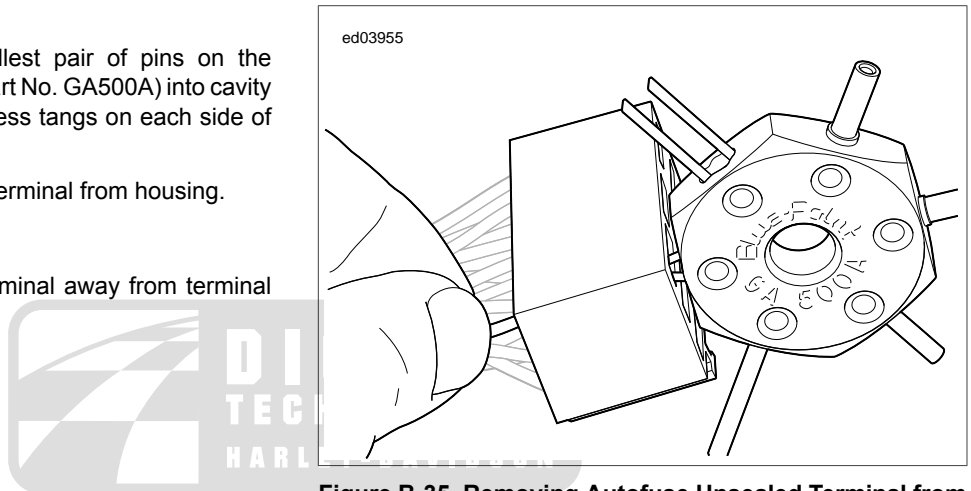

Figure B-35. Removing Autofuse Unsealed Terminal from Fuse Block
1. See Figure B-35. Insert smallest pair of pins on the SNAPON TERMINAL PICK (Part No. GA500A) into cavity on either side of terminal to press tangs on each side of terminal simultaneously.